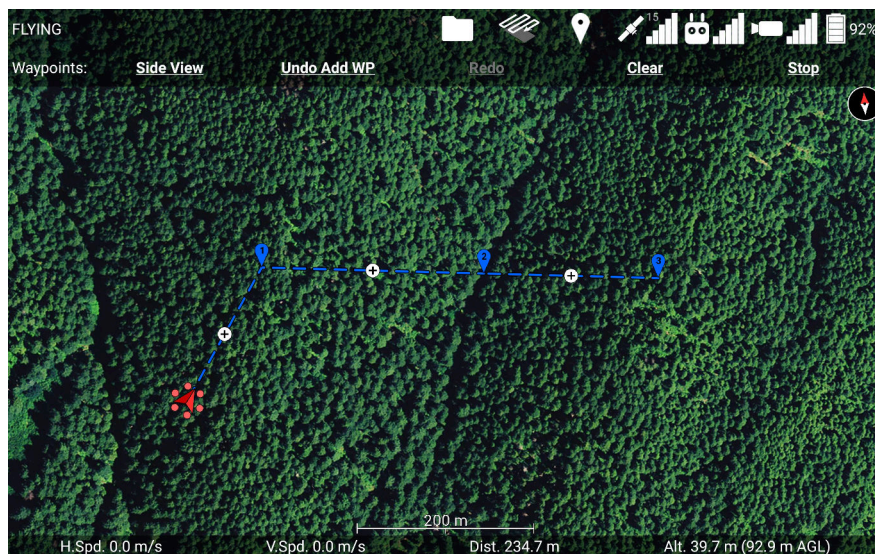

Figure 86: The path through waypoint 2 doesn't change heading, which allows you to move waypoint 2 left and right in the side view.
shown in Figure 86. The app doesn't require the waypoints to be perfectly aligned in order to move them left and right in the side view, so you'll be able to use this feature even if you drag the waypoints into a line by hand in the top-down map view. Moving waypoint 2 left and right in the side view will move it closer to the previous waypoint (1) or closer to the following waypoint (3), but it will stay along the line that connects the two.